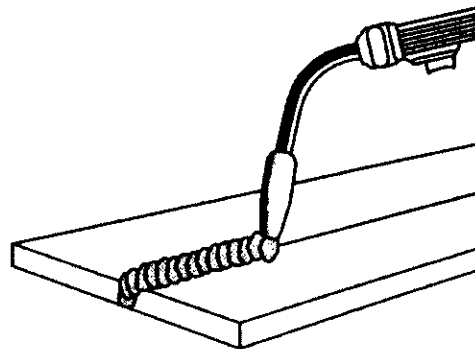

Figure 14. Flat Position
- 1. The FLAT POSITION** (Figure 14) is the easiest of the welding positions and is most commonly used. It is best if you can weld in the flat position if at all possible as good results are easier to achieve.